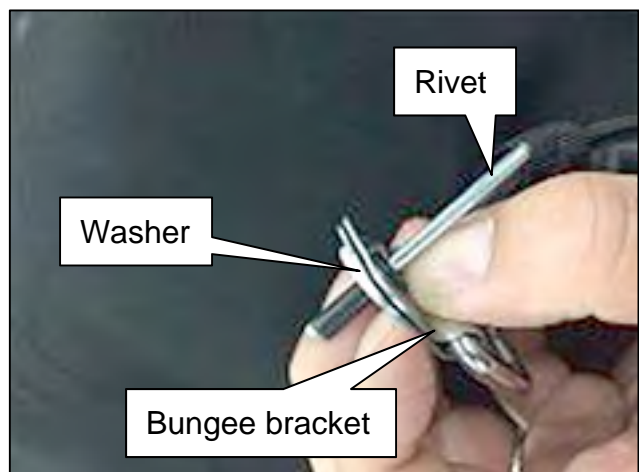

Figure 19
23. Assemble a rivet and a washer (WASH-SPL) onto a bungee bracket (WIRE-HDLNG) as shown in Figure 19.